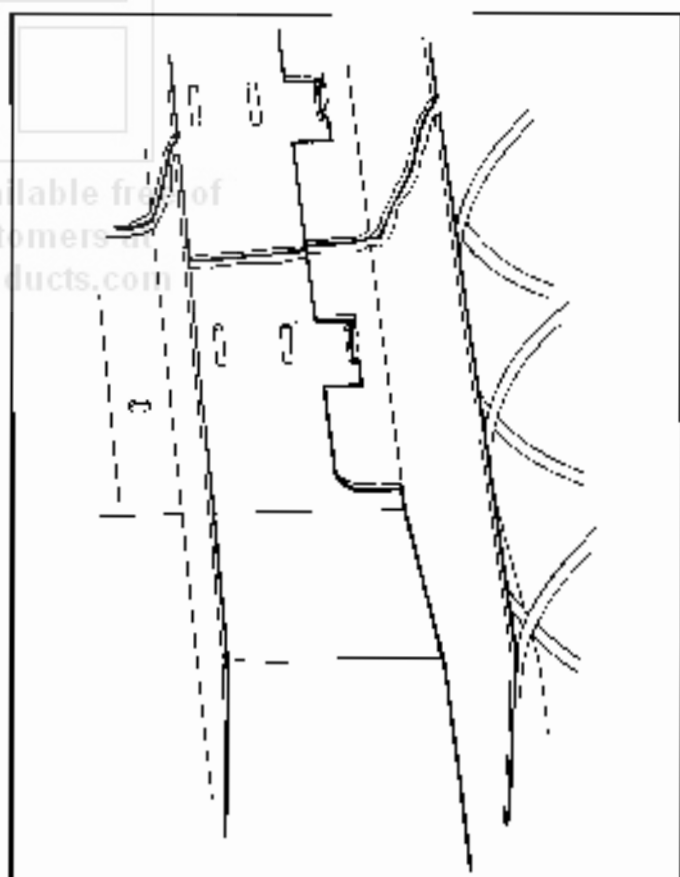

Figure 4. ALIGNMENT OF MOVABLE PRODUCT SPACERS.
5. **PRODUCT SPACERS 4 SELECTION SHELF:** A product spacer is used to reduce the width of the product area and should be used on any 4 selection snack shelf where the product width is $4\frac{1}{8}$ " or less. Spacers should fit with a $\frac{1}{8}$ " of the product but should not fit tight against the product. There are three positions in each space space where these spacers can be placed. To install the spacer, align the lock ears (on the lower edge of the spacer) with one of the three sets of slots (one front and one rear). (See Figure 4). Push the spacer to the rear to allow the ears to enter the slots, then allow the spacer to move forward. Be sure the ears are in the same set of slots, front and rear. (See Figure 4). Continue loading all spirals adjust with spacers where needed in the top one. Return the top shelf to the vending position and following this procedure load the remainder of the large spiral shelves. The shelf divider separating the right (lock side) column from the next column is movable to allow vending of products wider than $5\frac{1}{8}$ " in the second column. If this is used the right column must be used to vend a narrower product.